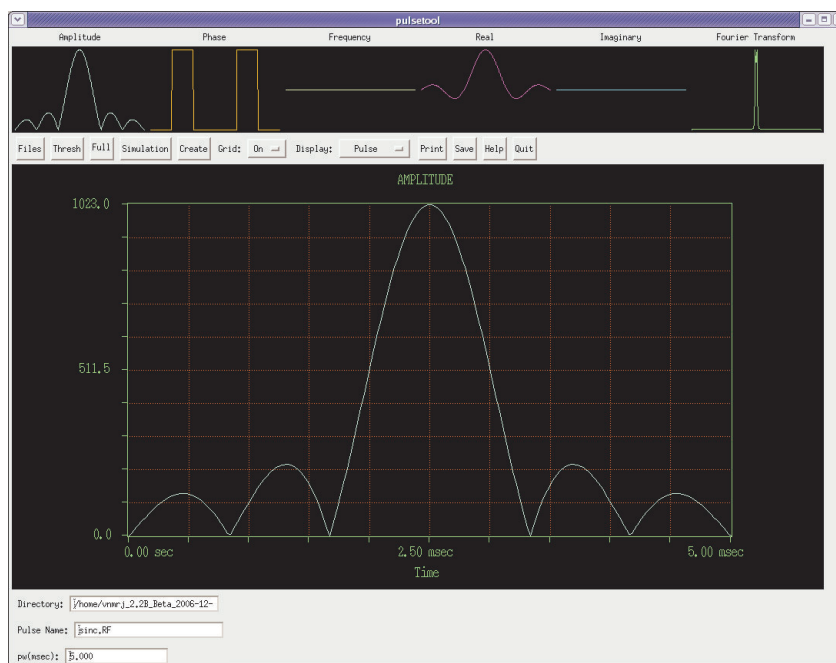

Figure 71. Pulsetool Spin Simulation Window
The Pulsetool starts, see Figure 71.
3. Start Pulsetool, see Figure 71, using one of these procedures: